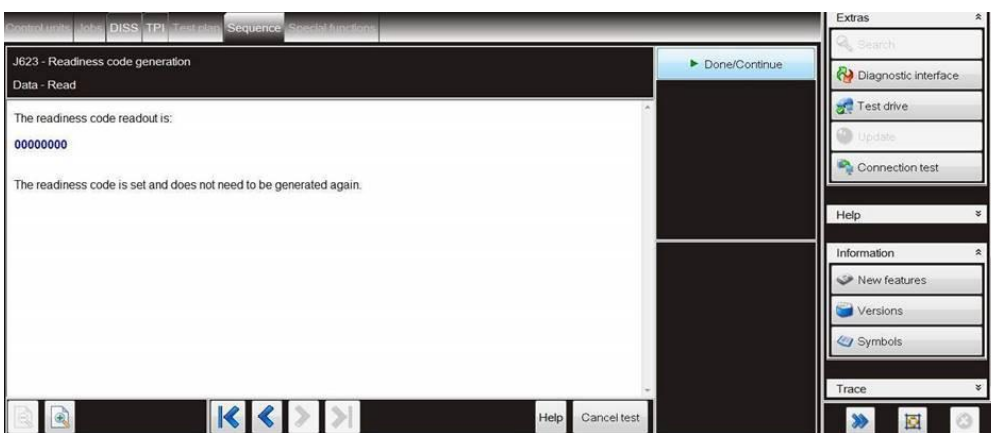

Figure 7
- Carry out the Readiness code test until complete as shown in Figure 7